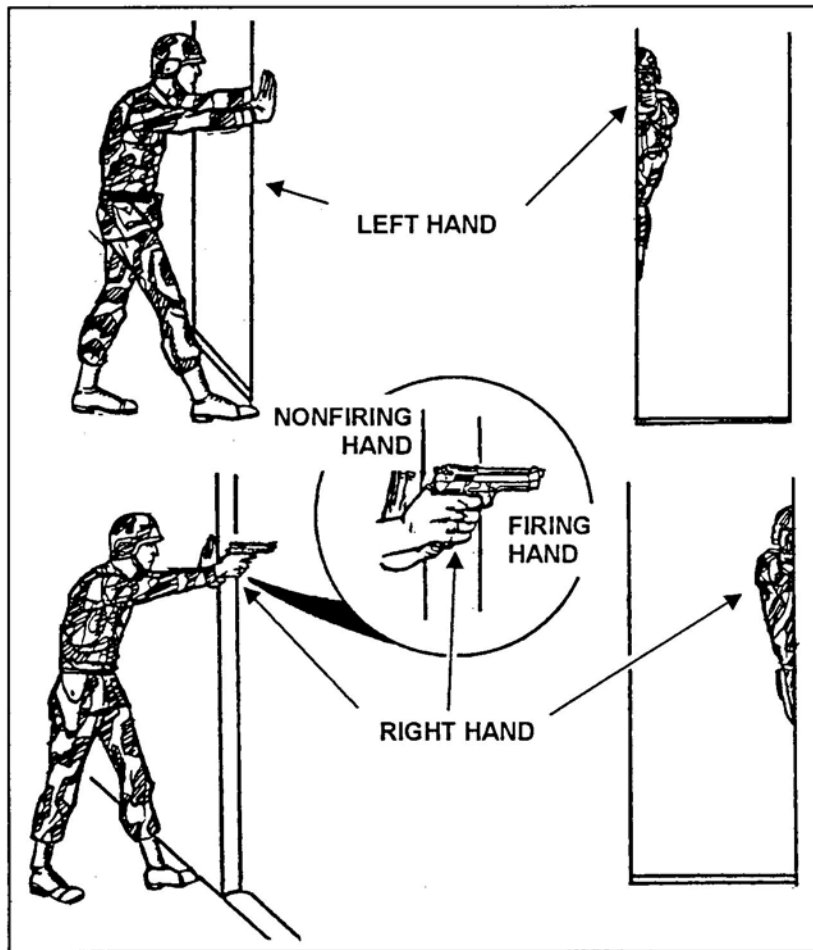

Figure 7. Standing-with-support position.
- b. Standing-with-support (Figure 7). To assume this position--
- (1) Use available cover for support. For example, stand behind a tree or wall.
- (2) Stand behind a barricade with your firing side in line with the edge of the barricade.
- (3) Place the palm of your nonfiring hand at eye level on the edge of the barricade, and extend your thumb past the edge of the barricade.
- (4) Lock the elbow of your firing arm. Rest your forearm on the extended thumb of your nonfiring hand.